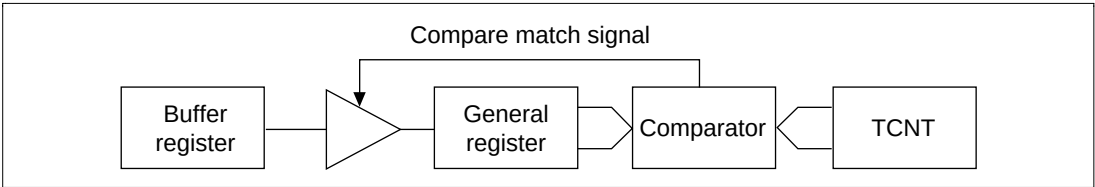

Figure 12.17 Compare Match Buffer Operation
**When TGR Is an Output Compare Register:** When a compare-match occurs, the corresponding channel buffer register value is transferred to the general register. Figure 12.17 shows an example.